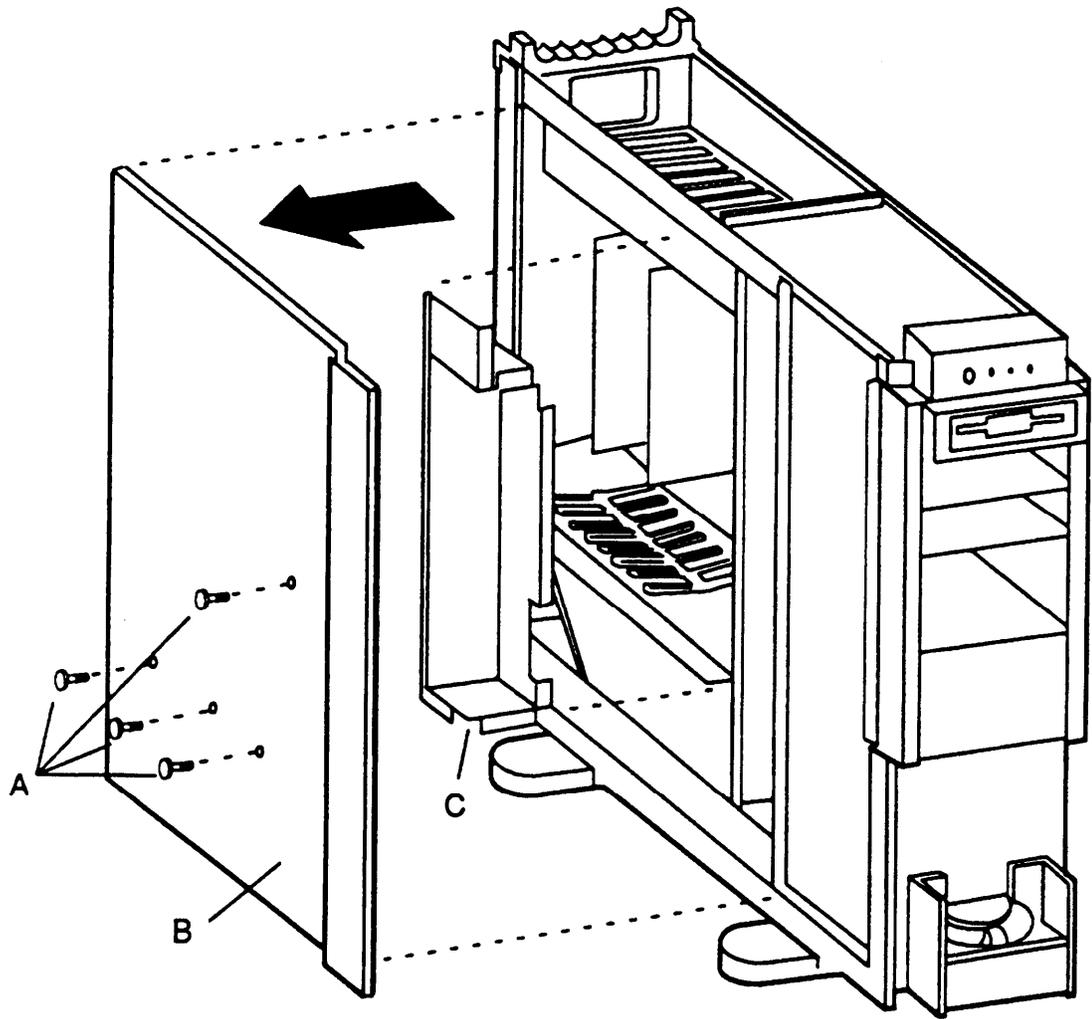

Figure 2-7. 6386E/33 WGS Access Cover Removal
6. Refer to Figure 2-7. Remove the four retaining screws **(A)** from the card cage cover.